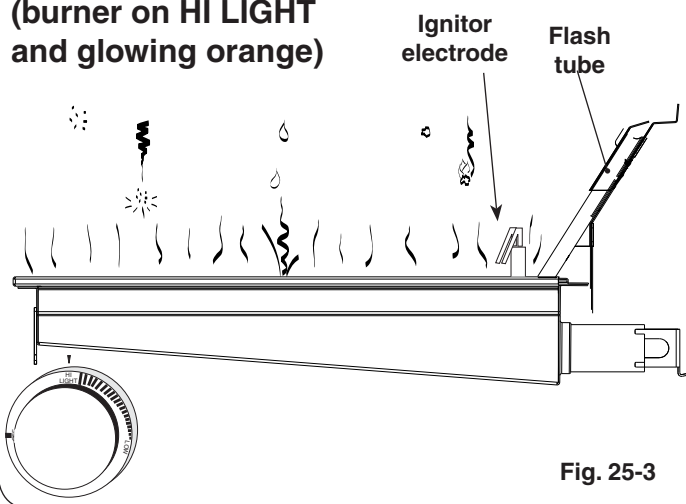

Fig. 25-3
- **DO NOT** place food on the cooking grid until the IR burner glows orange (Fig. 25-3). Drippings are heated and evaporate instead of sticking to and impairing burner function.